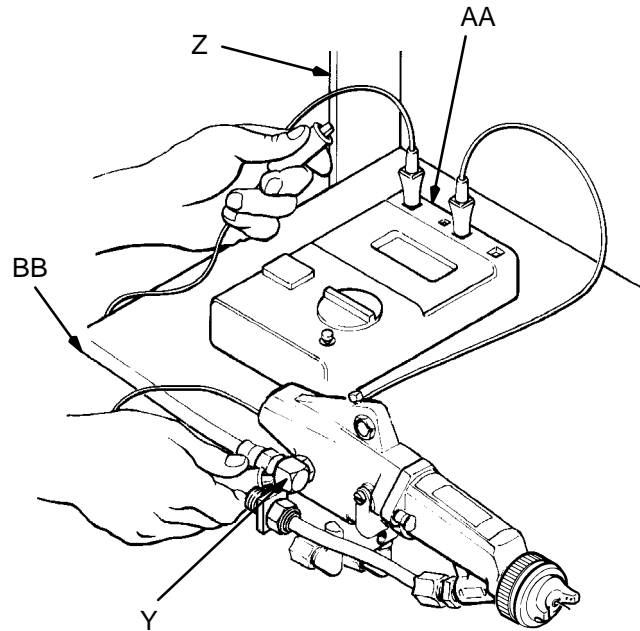

Fig 1
- a. With the electrically conductive air hose (BB) connected and properly grounded, use a megohmmeter (AA) (shown in **ACCESSORIES** section) to measure the resistance between the gun body (Y) and a true earth ground (Z). Use an applied voltage of 500 volts *minimum* to 1000 volts *maximum*. See Fig 1.